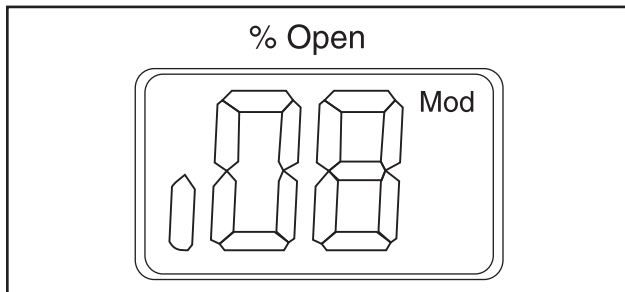

Figure 22
- Gives access to the Parameter list by keeping the push button activated for 2 seconds. A Parameter list example is shown below (parameter **i08**, Figure 22).